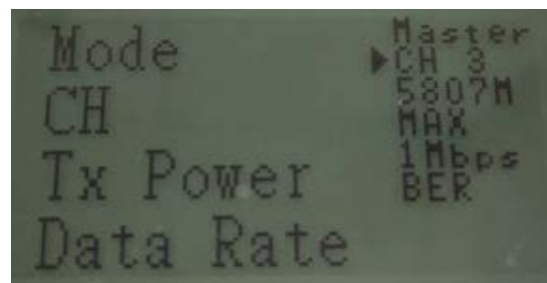

Fig.4
2. Press 'Enter' button, the cursor jumps to Sub Menu as shown in Fig.4.